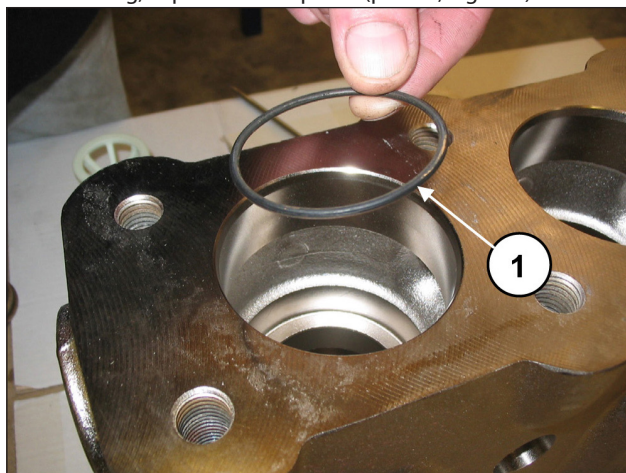

Fig. 114
Fit the O-ring, exploded view pos. 5 (pos. ①, Fig. 114).